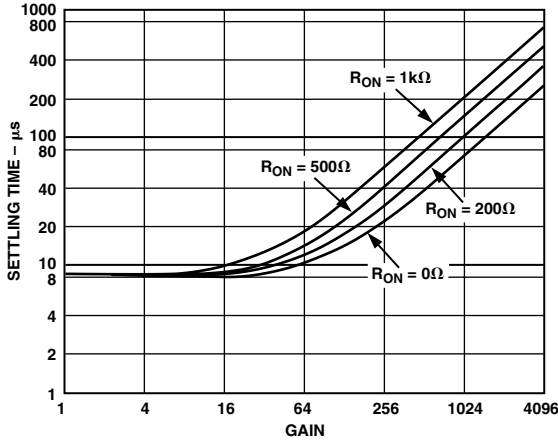

Figure 40. Time to 0.01% of a 20 V Step Input for SPGA with AD625
- **The frequency response and settling will be affected by the ON resistance and internal capacitance of the multiplexer. Figure 40 shows the settling time vs. ON resistance at different gain settings for an AD625 based SPGA.